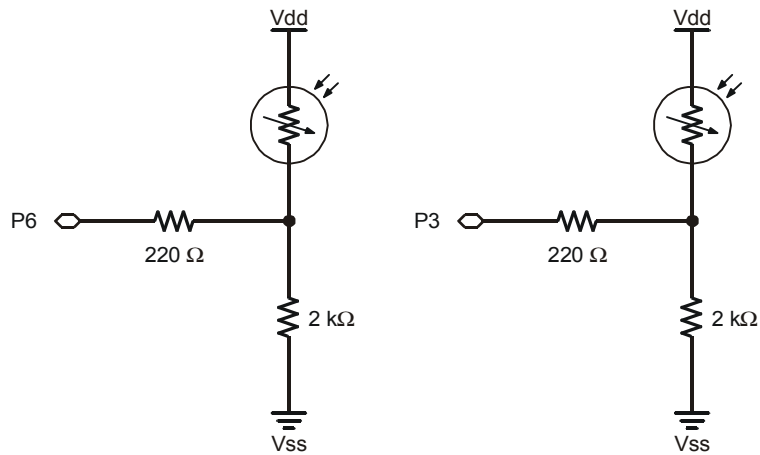
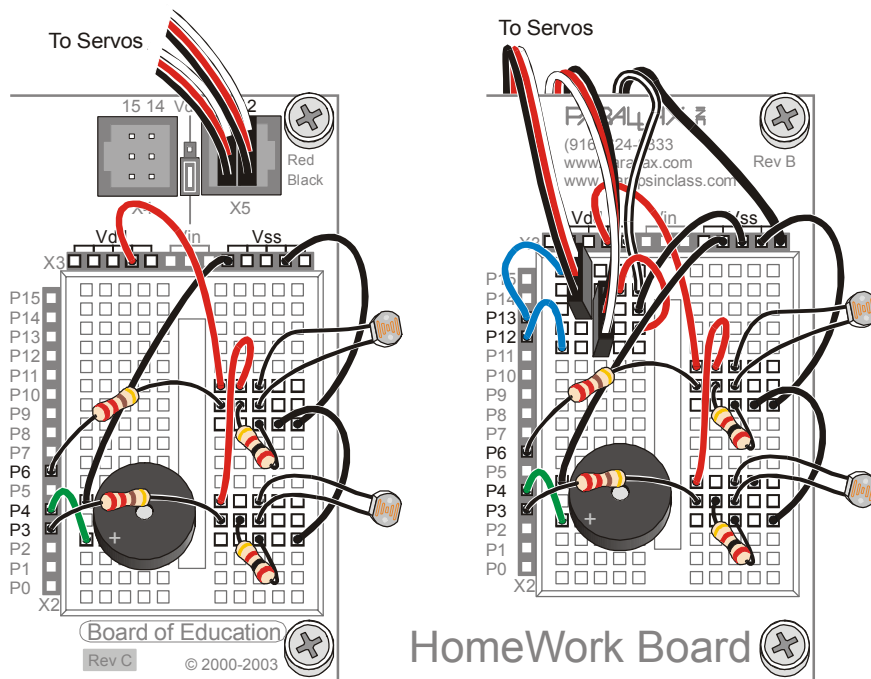

Figure 6-2
Figure 6-3
Figure 6-2 shows the schematic and Figure 6-3 shows the wiring diagram for the photoresistor circuits you will use in this and the next two activities.
- √ Build the circuit shown in Figure 6-2, using Figure 6-3 as a reference.